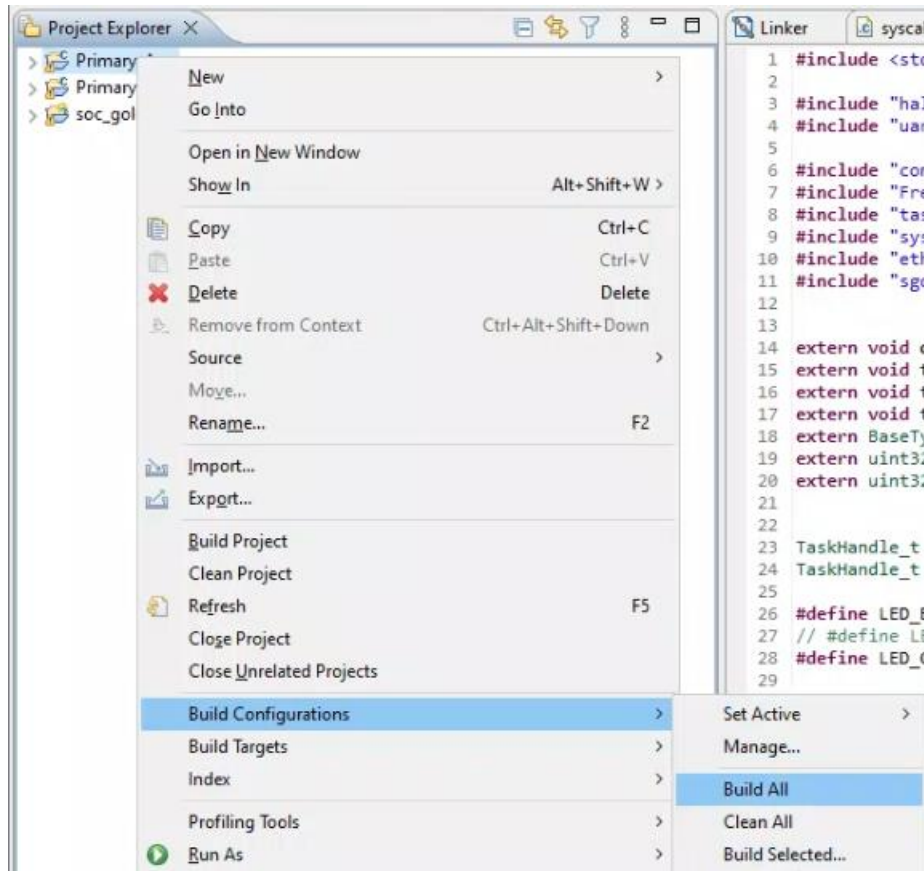

Figure A.12. Build All
3. After cleaning, right click on *Primary_App* and select the option as shown in Figure A.12 to build the project.